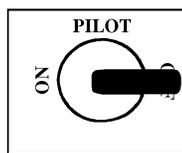

Fig. 7
5. Turn control handle counterclockwise ↺ to the "PILOT" position (Fig. 7).
7. Once the pilot lights continue to depress the control handle for one (1) minute.